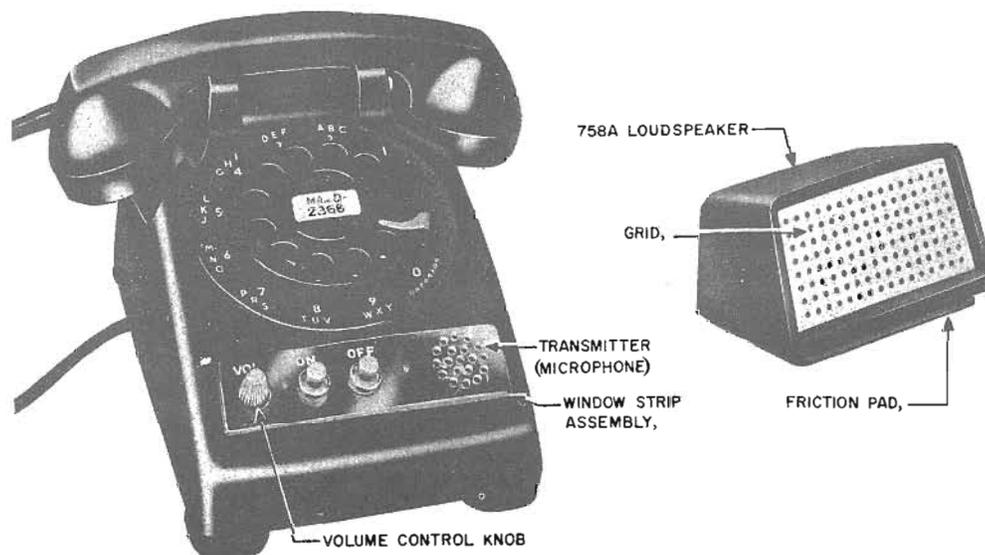

Fig. 1 — Speakerphone Components, Microphone in Base of Set
2.03 The 592-type telephone set shown in Fig. 1 has the same general appearance as the 500-type key telephone set. It contains:
2.05 The 758A loudspeaker (Fig. 1 and 2) is used to provide loudspeaker facilities for the distant talking set. It consists of: